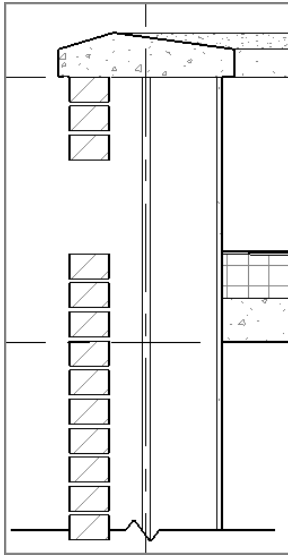

FIGURE 12.12: The bricks are being placed.
5. Press Esc twice. Look at Figure 12.12. Does your detail look the same?